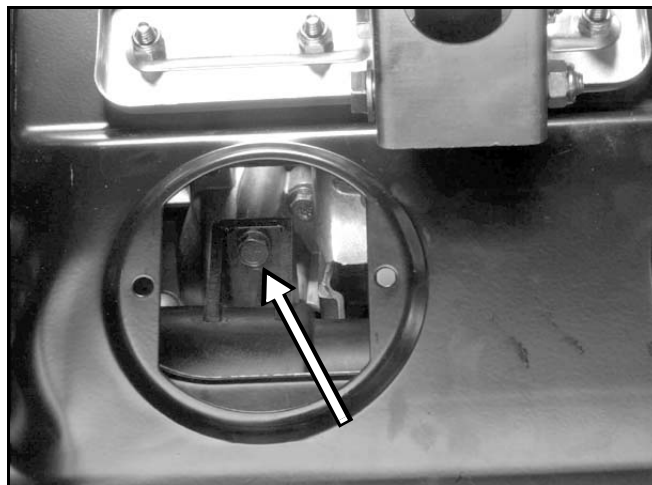

Figure 61
7. Tip the machine forward and reach in with a ratchet and extension to remove the last motor mounting screw through the access hole provided (Figure 61).